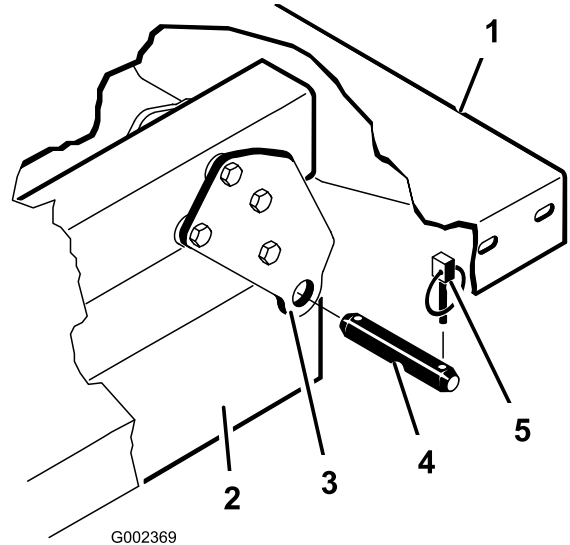

Figure 12
3. Remove clevis pins securing cylinder rod ends to bed mounting plates by pushing pins towards inside (Figure 12).
4. Remove lynch pins and clevis pins securing pivot brackets to frame channels (Figure 12).
Note: Assure rear pivot plates are bolted to the bed frame/channel so that lower end angles to the rear (Figure 12).
2. Carefully set bed onto vehicle frame aligning rear bed pivot plate holes with holes in rear frame channel and install (2) clevis pins and lynch pins (Figure 12).
3. With bed lowered, secure each cylinder rod end, to appropriate slots in bed mounting plates with clevis pin and lynch pin. Insert clevis pin from outside of bed with lynch pin toward outside (Figure 12). Rear slots are for full bed installation and front slots are for 2/3 bed installation.